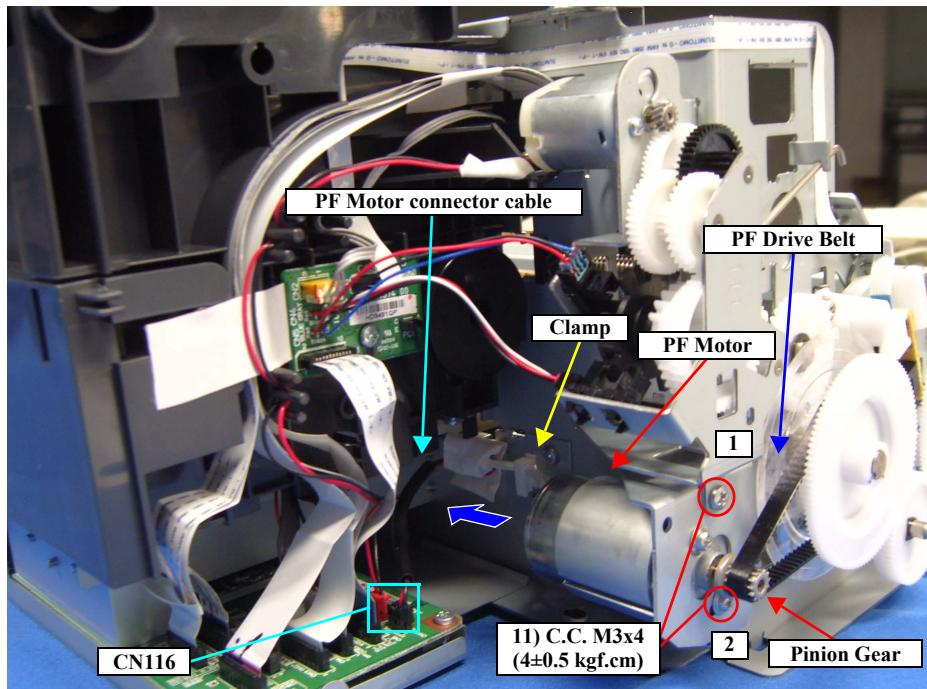

Figure 3-146. Removing the PF Motor
- Tighten the screws in the order shown in Figure 3-146